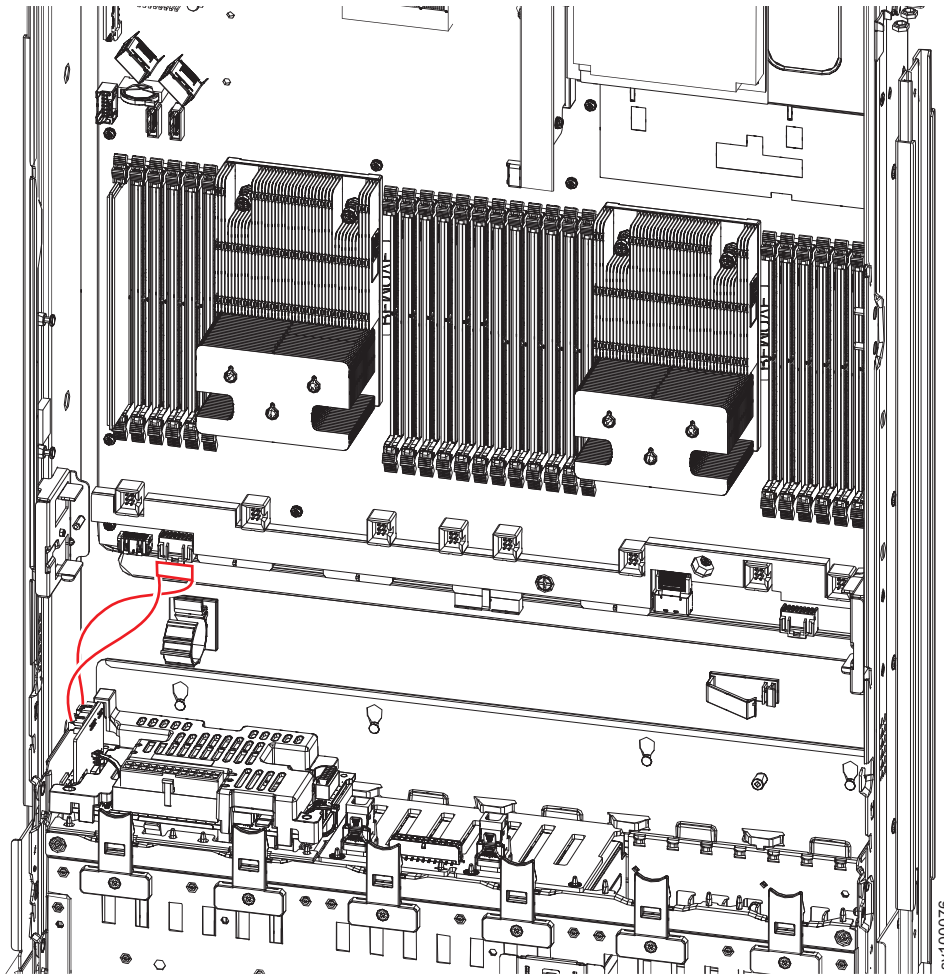

Figure 100. 2145-SV1 battery backplane power sense cable
4. Remove the power sense cable between the battery backplane and the main board, as shown in Figure 100 on page 121.